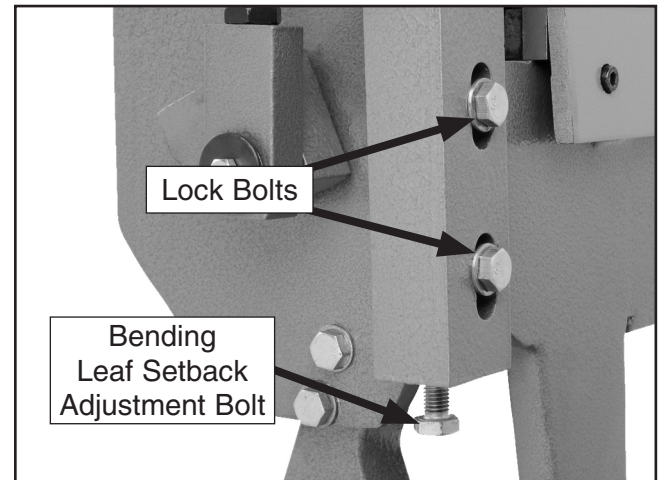

Figure 9. Bending leaf setback adjustments.
1. Loosen the lock bolts on both sides of the bending leaf (see **Figure 9**).
2. Adjust the setback adjustment bolts (**Figure 9**) on both ends of the bending leaf equally.